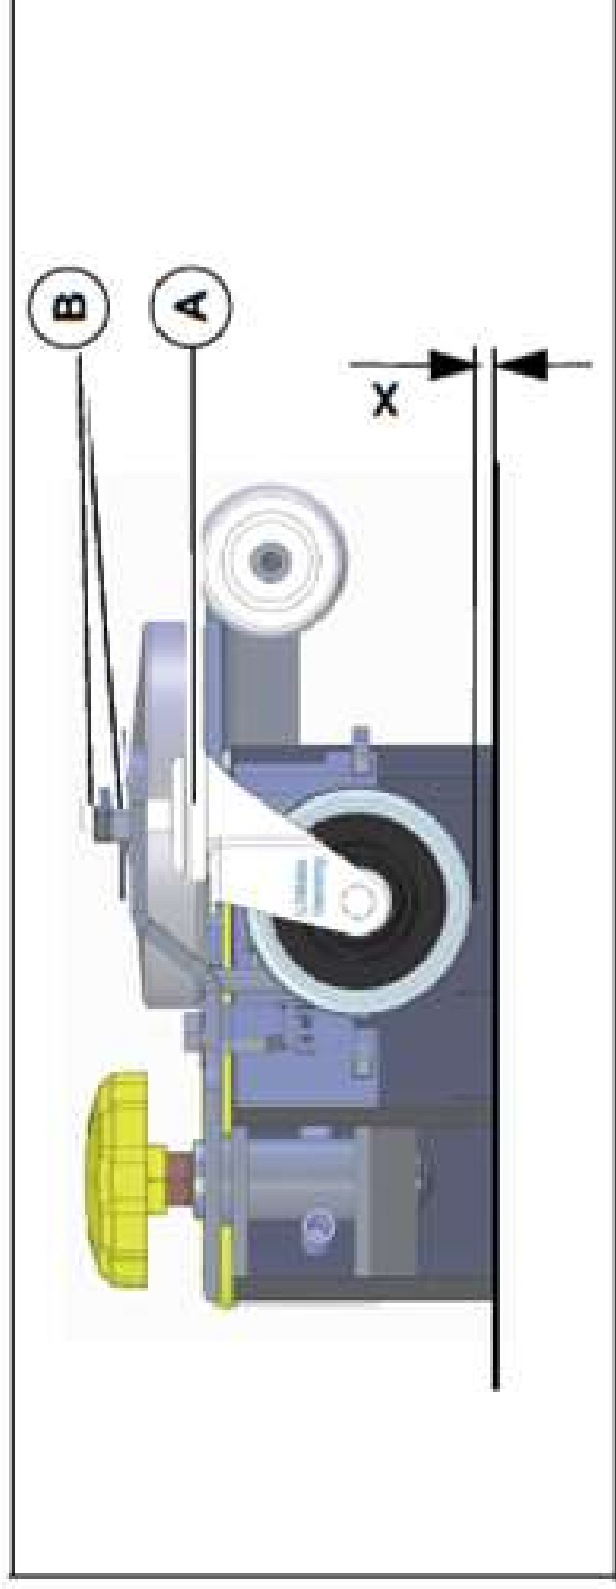

Figure 4
The height adjustment (X) of the supporting rollers Fig. 4 has been set to 7 mm in the factory. If striping still occurs despite optimum inclination adjustment, readjust the distance between the supporting rollers and the lower edge of the sealing strip.
3. Loosen nuts (figure 4 B) and adjust distance between supporting roller and ground as per the table.